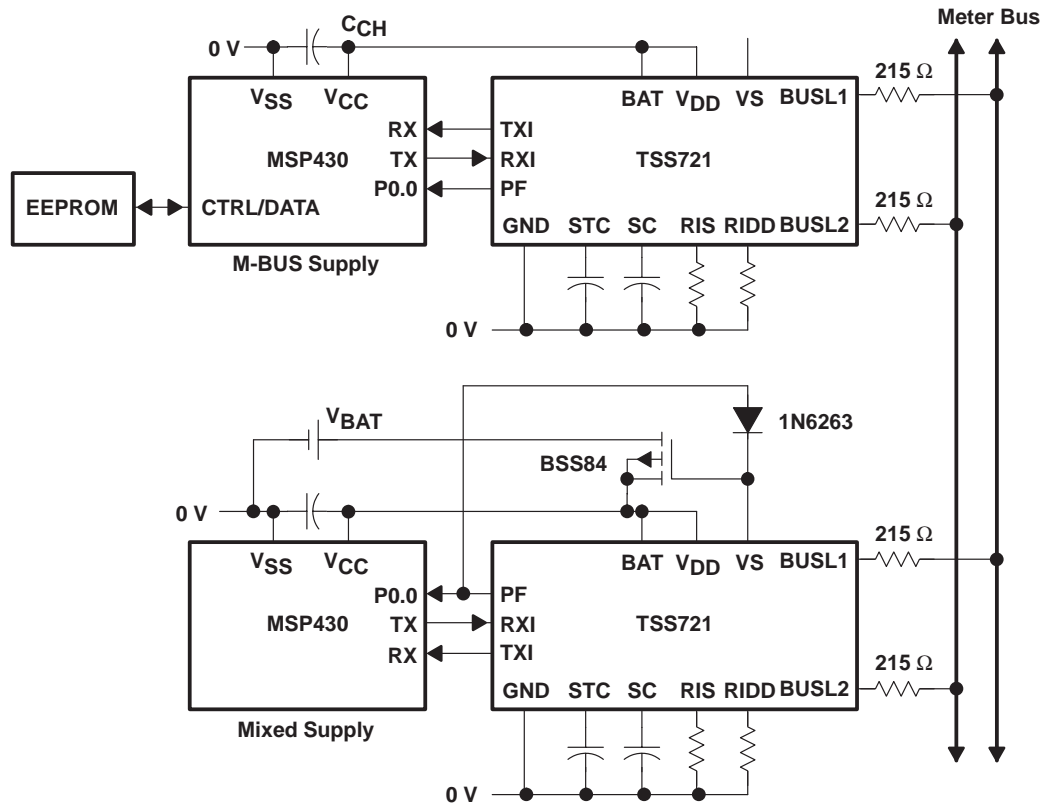

Figure 3–41. Supply From the M Bus
- ☐ Use of extended charge periods between host-to-MSP430 data transfers. The MARK level of the RS232 protocol is used for this purpose. This method is shown in Figure 3–42 with every logical one, stop bit, and MARK level used for the supply.